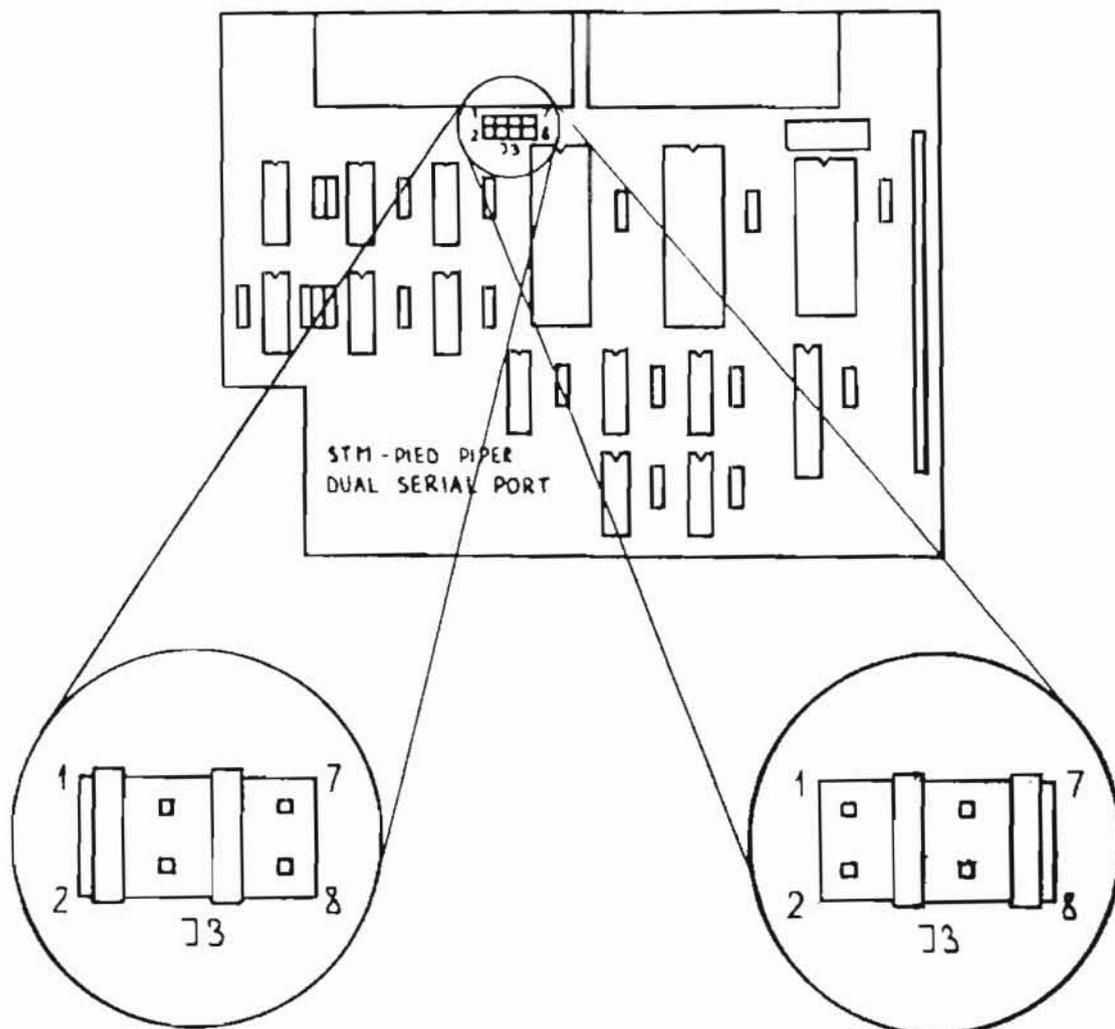

FIGURE 1
To re-position the jumpers, follow the step-by-step instructions below and refer to Figure 1.
- Step 1: Look carefully at the serial card. Notice the four jumper locations marked J3 in the top left quadrant of the card as pictured in Figure 1.